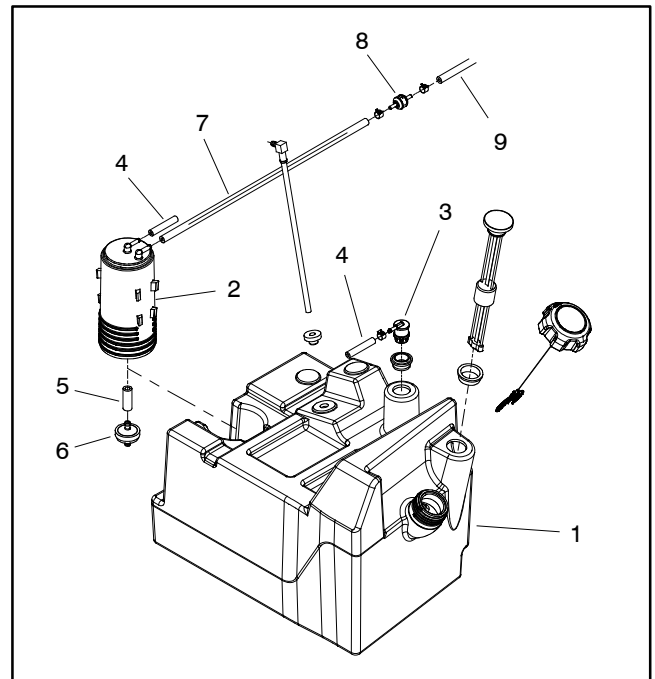
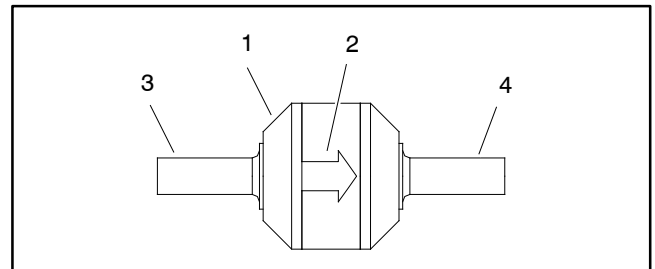

Figure 19
Figure 20
Machines with a carbon canister include a single engine connection to the engine intake system that is used to connect the evaporative system to the engine. These machines use an inline check valve between the carbon canister and the engine fitting. Evaporative control system components for Workman MDX vehicles are shown in Figure 19.
Disassembly (Fig. 19)
2. Remove components as needed using Figure 19 as a guide.
A. If check valve (item 8 in Fig. 19) is removed, note direction of directional arrow on valve body for assembly purposes (Fig. 20).
1. Install all removed components using Figure 19 as a guide.
A. If check valve (item 7 in Fig. 19) was removed, make sure that directional arrow on valve body points toward engine (Fig. 20).